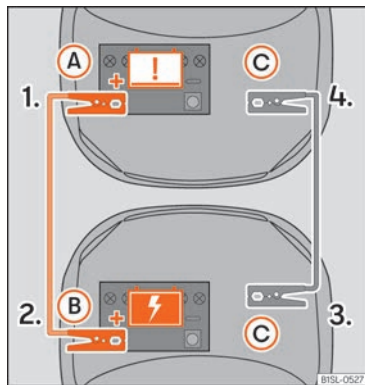

Fig. 41 Connection diagram.
The jump leads should only be connected following the order »» **Fig. 41** 1. > 2. > 3. > 4.
- Connect one end of the **red** jump lead to the positive pole + of the vehicle with the discharged battery (A) »» **Fig. 41**.
- Connect the other end of the **red** jump lead to the positive terminal + in the vehicle providing assistance (B).
- Connect one end of the **black** jump lead (C), to a suitable earth terminal, to a piece of solid metal that is bolted to the crankcase or to the crankcase of the vehicle itself that supplies the power.
- Connect the other end of the **black** jump lead (C), in to the vehicle with the discharged battery, to a piece of solid metal that is bolted to the crankcase or to the crankcase itself but as far as possible from the battery (A). Do not connect the black jump lead to the negative pole – of the 12-volt battery. If it is connected, this may cause an erroneous evaluation of the state of the battery inside the electronic system of the vehicle.